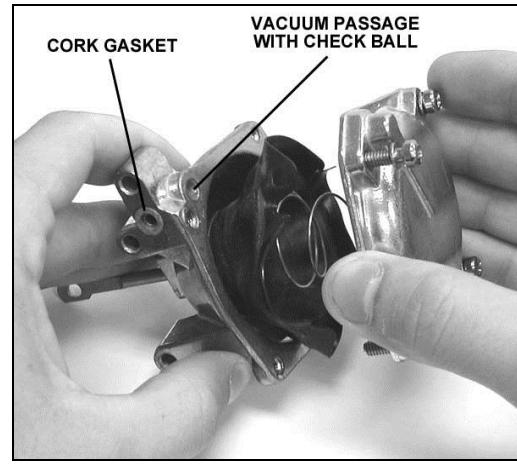

Figure 17
5. Gently remove the cover. Take care as not to tear the diaphragm or lose the check ball, if so equipped (Figure 17).